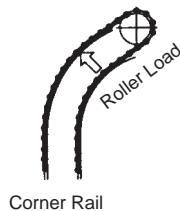

Figure 6.38 High Roller Load Due to Curved Rail
- (1) To select this chain, verify the chain tension required, and make sure to confirm the roller load and attachment strength (twisting moment and bending moment).
- (2) Allow for a safety factor to withstand peak loads during jam-ups.
- (3) Chain rollers might be exposed to high loads when following the curves of the guide rail. Make sure you take this load into consideration when selecting the chain. Minimize tension from the take-up (Figure 6.38).
- (4) Of course, you should avoid contaminating the water with oil, but when the test run of the equipment is performed without water, the chain's moving parts should be lubricated.